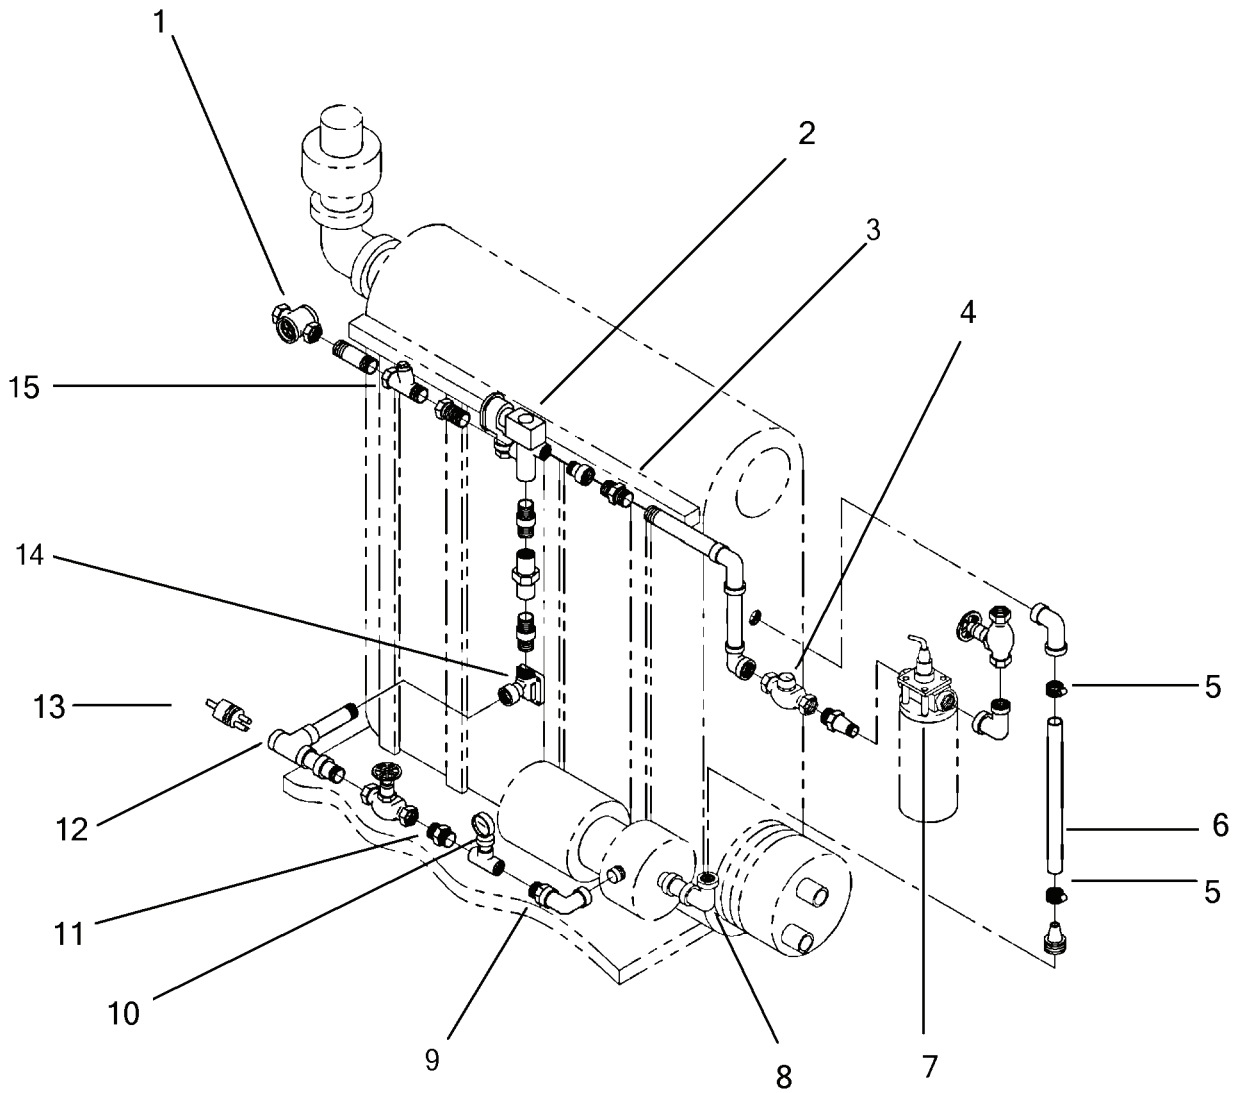
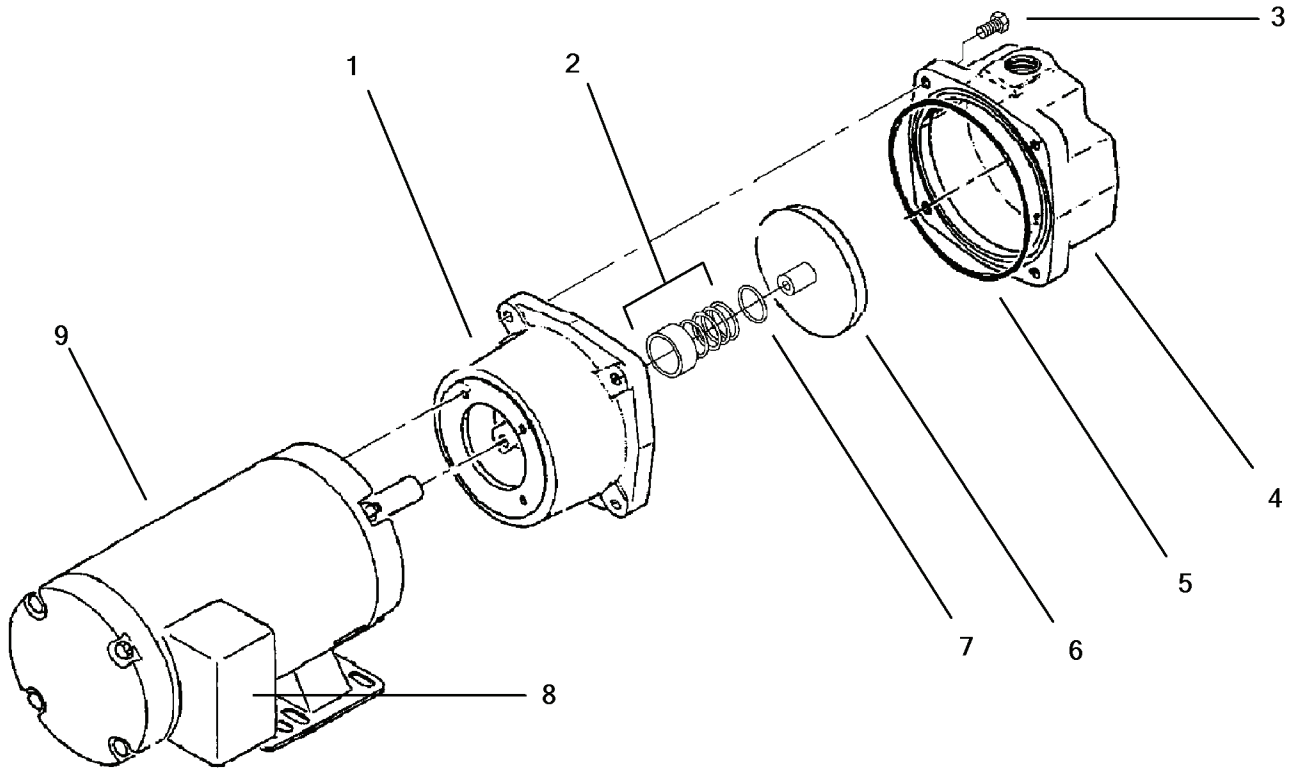

Figure 2-5. Distillate Piping Group.
Figure 2-6 Distillate Pump Assembly.
- a. To remove the distillate piping group (Figure 2-5), proceed as follows:
- (1) At power panel P103 turn off circuit breaker for salinity control system.
- (2) In the salinity control panel identify and label distillate dump valve wires and remove.
- (5) Place pail under distillate pump inlet (8, Figure 2-5) to catch distillate water.
- (6) Remove lower hose clamp (5), and drain hose and Evaporator reservoir.
- (7) Remove upper hose clamp (5) and flexible hose (6).
- (8) Place container under tee connector (12) to catch remaining distillate water.
- (9) Remove salinity cell (13) and allow draining of piping system.
- (10) Disconnect piping from the distillate dump sight glass (1).
- (11) Loosen the union fittings (3, 9 and 11) and remove the piping group.
- b. To remove the distillate thermometer (10), unscrew from tee connector.
- c. After the piping group is removed, the distillate dump sight glass (1), distillate dump valve (2), product water meter (4), Ultraviolet (UV) sterilizer (7), pressure regulating valve (14) and check valve (15) can be removed by disconnecting the appropriate piping.
- a. Repair is by replacement of the pressure regulating valve (14), check valve (15), distillate dump site glass (1) and damaged or worn associated piping (Figure 2-5).
- (1) Remove applicable associated pipe fittings as describe in removal procedure (a) and TB-55-1900-204-24 (Welding on Watercraft).
- (2) Install new or repaired pipe or pipe fitting as described in replacement procedure b.
- g. To repair the flexible hose (6):
- a. Replace the distillate dump sight glass (1), distillate dump valve (2), product water meter (4), Ultraviolet (UV) Sterilizer (7), check valve (15) and pressure regulating valve (14), by connecting to the appropriate piping.
- b. To replace the distillate piping group (Figure 2-5), proceed as follows:
- (1) Install the piping group in position; tighten the union fittings (3, 9 and 11).
- (2) Reconnect the piping to the distillate dump sight glass (1).
- (3) Reconnect the salinity cell (13) to the piping system.
- (4) Replace flexible hose (6) with hose clamps (5).
- (5) In the salinity control panel reconnect distillate dump valve wires.
- c. Replace the distillate thermometer (10, Figure 2-5), screw into tee connector.
2-13. Distillate Pump Assembly. (Figures 2-5 and 2-6)
To remove the distillate pump assembly (Figure 2-6), proceed as follows:
- (1) Disconnect lower hose clamp (5, Figure 2-5) from flexible hose at the inlet.
- (2) Remove coupling (9) from piping at the outlet.
- (3) Dispose of liquid in accordance with current regulations.
- d. Remove capscrews (3, Figure 2-6) from suction cover (4). Note the condition of gasket (5), which adheres either to the suction cover (4) or the casing (1).